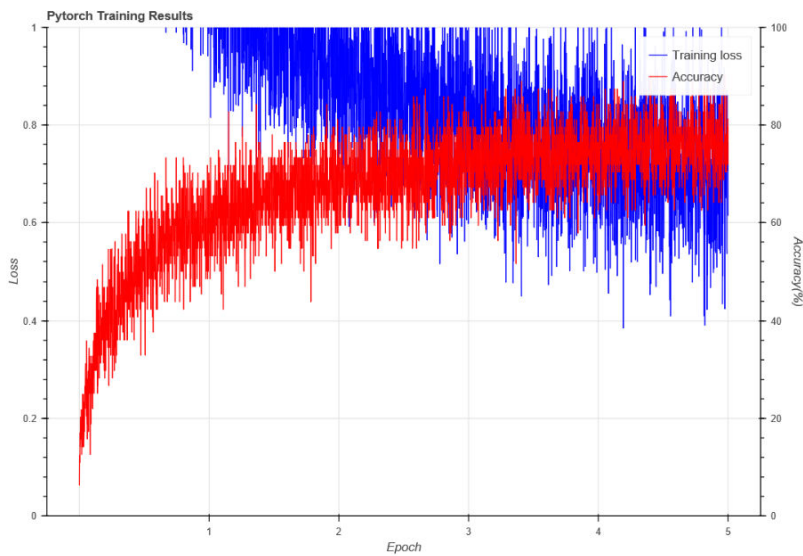

Figure 11. Training progression using Adam Optimizer
- Adam optimizer allows for a higher accuracy and lower loss. In Figure 11, the Adam optimizer can be seen adapting to the solution at a quicker rate than SGD in this figure.